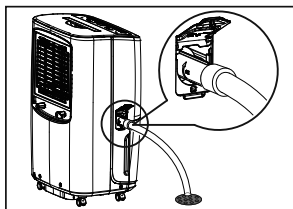

fig. 8
- e. Direct the hose toward the drain, making sure that there are no kinks that will stop the water flowing. (fig.8)